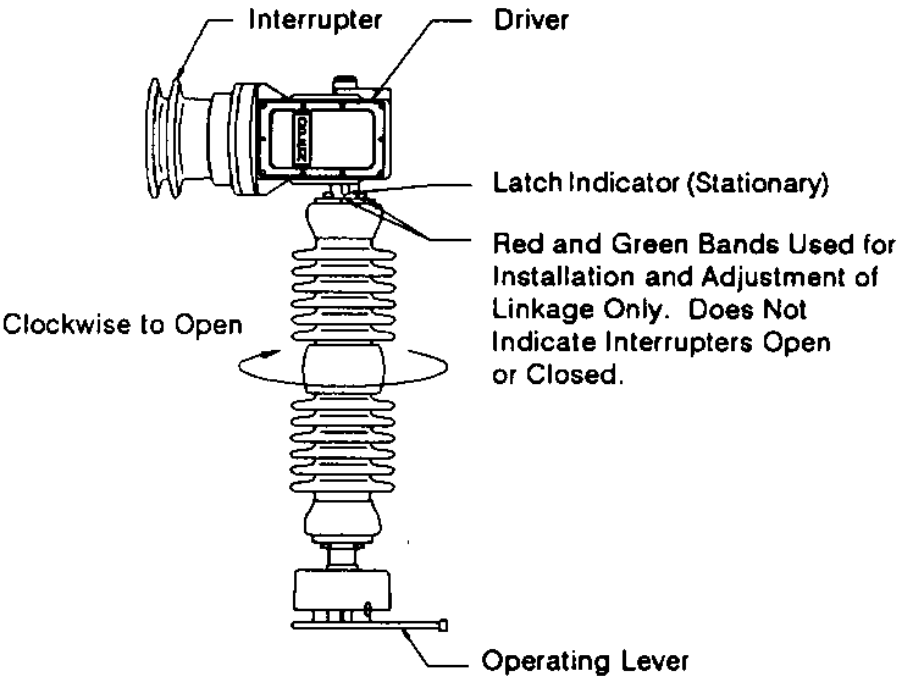

Figure 36 -- Opening Procedure 72-265-035-418
- 6. Rotate the pole units clockwise to the open position by pushing against the interphase levers and/or hand turning the insulators. When full open, there will be resistance to further rotation and the latch pointers will indicate in the green bands underneath the drivers. See Figure 36.